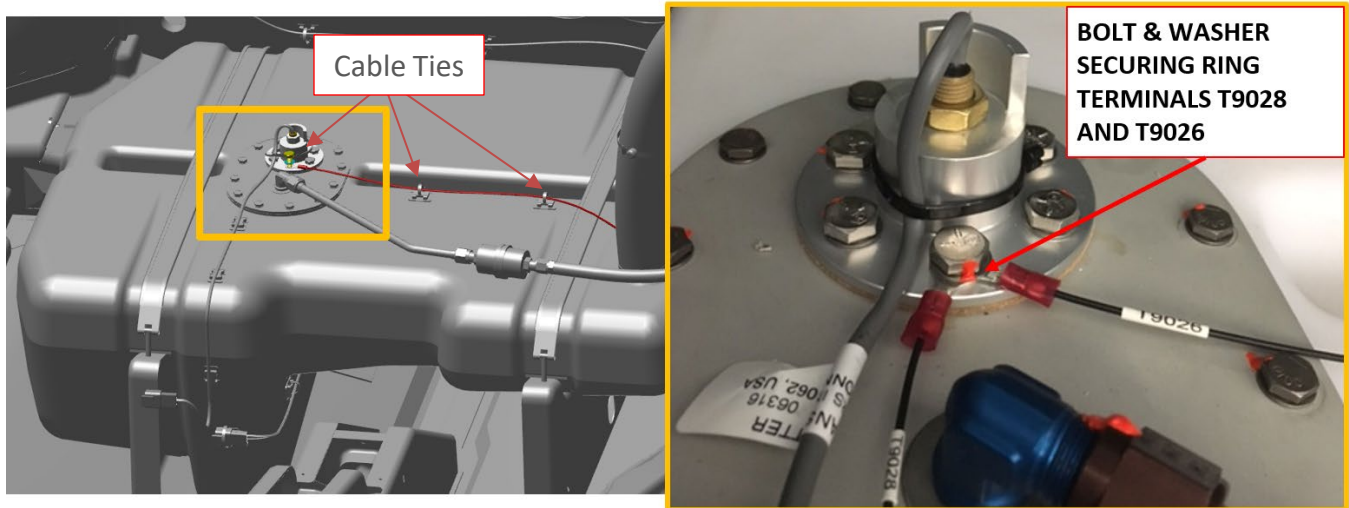

Figure 7 – fuel level sensor ring terminals.
3. Remove electrical connections from fuel level sensor, Figure 7:
- f. Additionally, secure the fuel level sensor harness with a one CABLE-TIE NYLON 6-6, 30 LB around the base of the fuel level sensor housing as shown in the right-side photo of figure 7 to keep the harness from chaffing on the baggage floor. NOTE: This cable-tie is not shown in any of the bladder fuel tank photos.
3. Secure the electrical connections to the fuel level sensor plate, Figure 7: